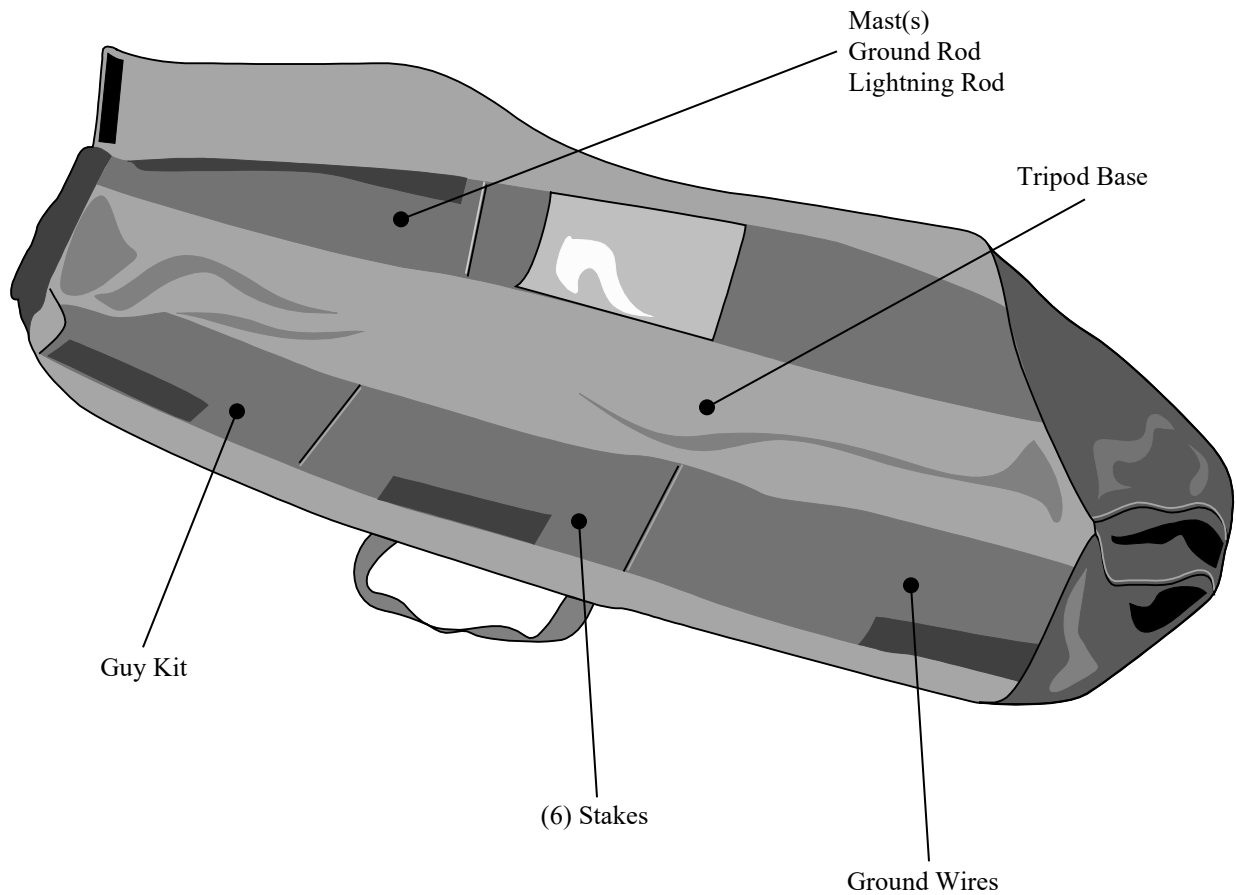

FIGURE 1-2. Tripod tote
The Tripod Tote is an option for the CM110-series tripods. The tote is constructed of nylon, with a main compartment for the tripod base, and pockets for stowing the other components as shown in FIGURE 1-2.
FIGURE 3-1 shows the tripod components packaged for shipment. The tripod base is packaged with the mast, ground rod, lightning rod, and (6) stakes. The ground rod clamp, lightning rod, and ground wires are enclosed in a bag. The guy kit (optional for the CM110), and Tripod Tote (optional) are packaged separately. The CM115 and CM120 tripods include additional mast sections. FIGURE 1-2 shows how to stow the components inside the tripod tote.